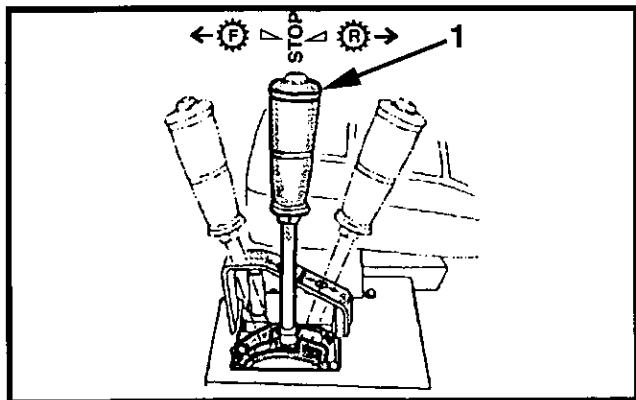

Figure 4-17 Propulsion Control Lever
5. Slowly move propulsion control (1, Figure 4-17) to achieve desired direction and safe speed of travel as determined by the conditions. The further the control is moved from STOP position the greater the speed in that direction.
2. For normal stopping, move propulsion control lever slowly to the STOP position (Figure 4-17).